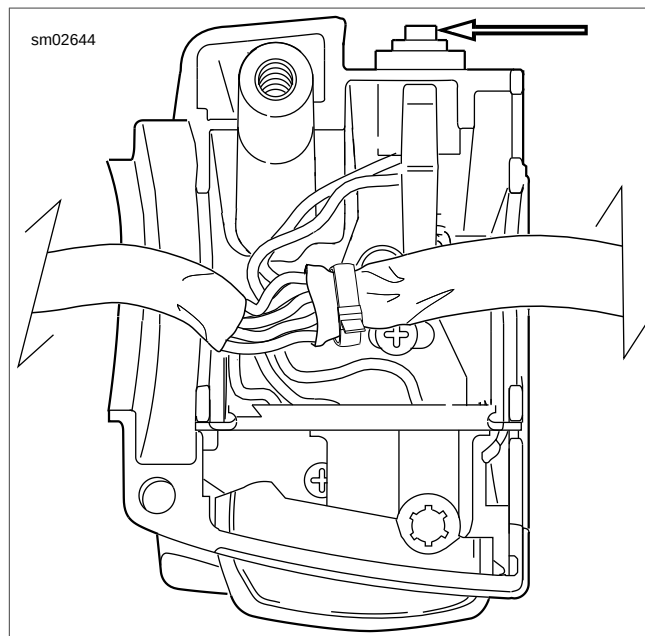

Figure 6-150. Clutch Interlock Switch
1. See Figure 6-150. Cut wires 0.25 in (6.4 mm) from old switch. Discard switch assembly.